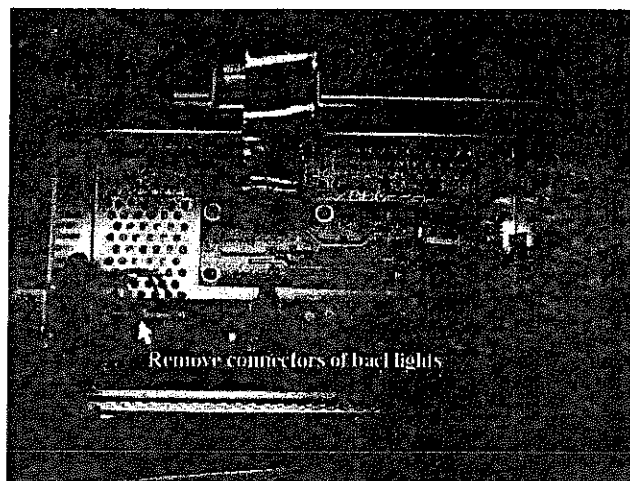

Figure 5-20 Location of Connectors
3. After remove TFT display unit, remove connectors for back light of TFT, referring Figure 5-20.